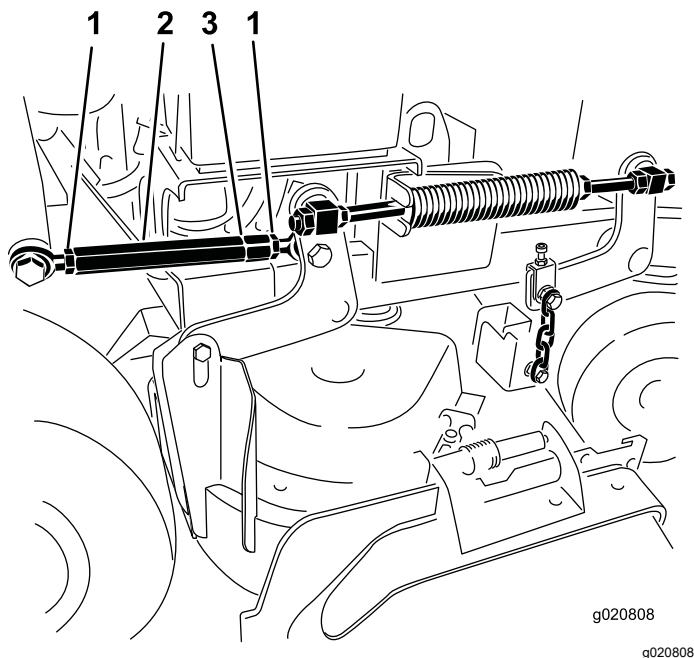

Figure 86
4. Loosen the jam nuts at both ends of the turnbuckle (Figure 86).
Note: The end of the turnbuckle with the groove has left threads (Figure 86).